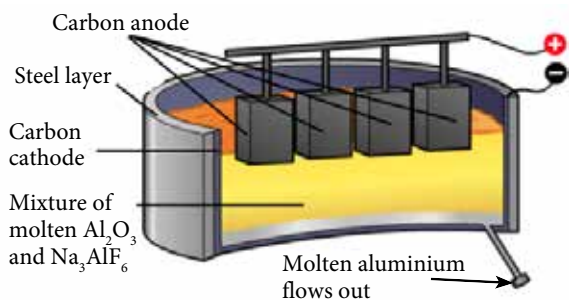

Figure 1.37 Extraction of aluminium from molten aluminium oxide, Al_2O_3 by electrolysis
- Let us study Figure 1.37 to understand the process of aluminium, Al extraction by electrolysis.